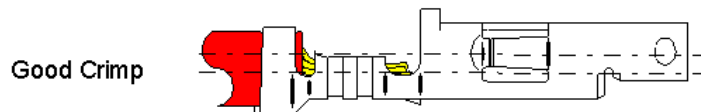

FIG. 16
5.2.8 "Banana" (Excessive Bending) Terminal (fig.16)